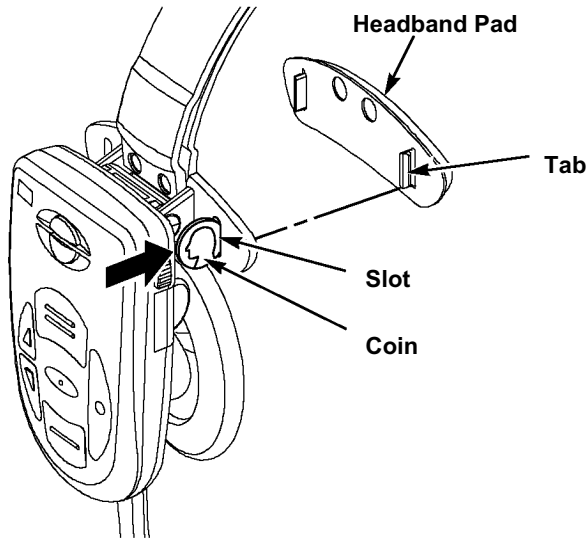

Figure 16.
1. Insert the edge of a dime into the slot on the headband pad housing. See Figure 16.